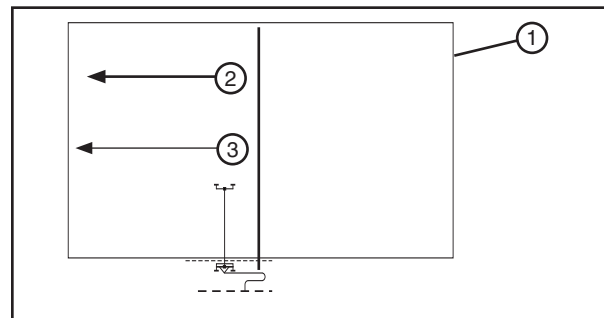

Figure 39-4 1. Field 2. Direction of Travel 3. Wet or Dry
2. At the middle of the field the system direction is reversed. Set the percentage timer and run the system either wet or dry back to the original end of the field. See figure 39-4.